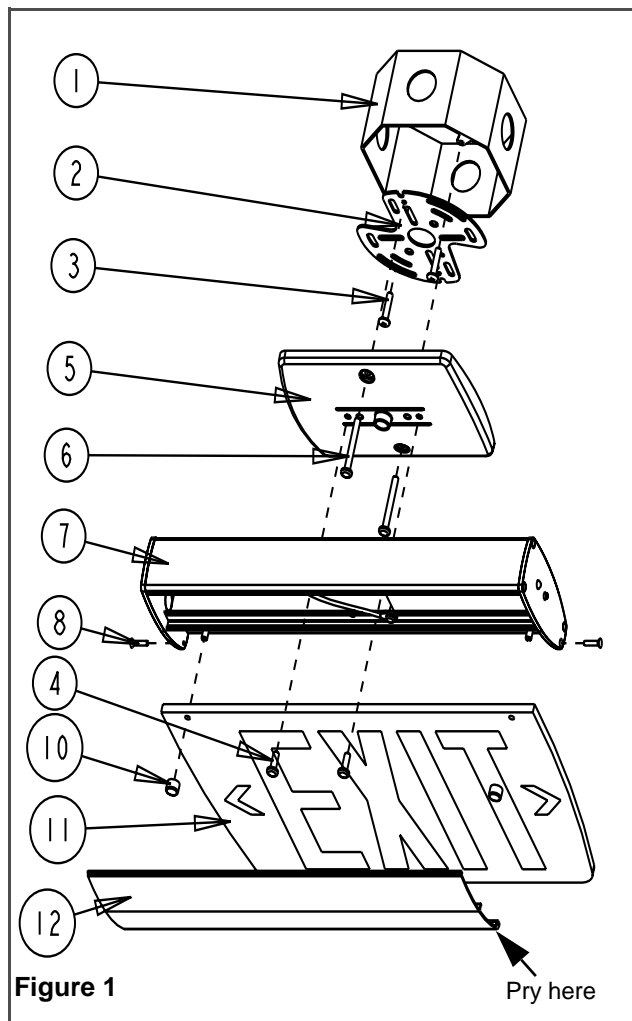

Figure 1
4. Unsnap cover (12) by using your fingers, lift the bottom of the cover and remove (if the cover is too difficult to open gently pry the cover using a flat head screw-driver at the point indicated in fig.1).
#### Wall Mount (See Figure 1)
4. Pour ouvrir l'enseigne, soulever le couvercle. Si le couvercle est trop difficile à ouvrir, utiliser un tournevis plat et soulever au point indiqué sur la figure 1).
### Montage mural (voir figure 1)